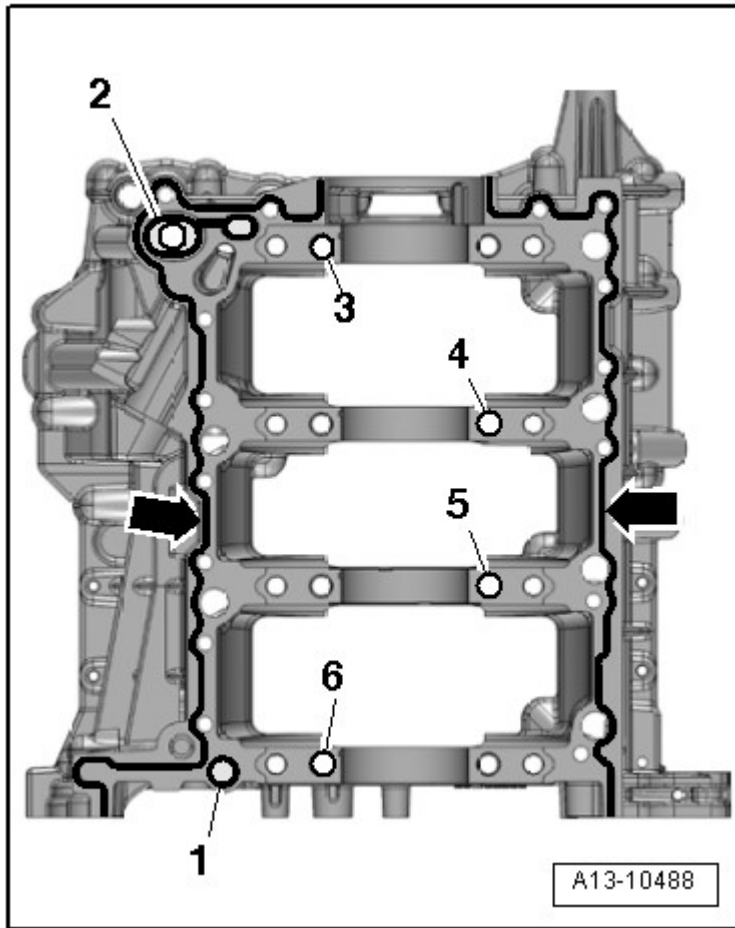

Fig. 7: Identifying Sealant Application
- Insert into guide frame, refer to **Fig. 7**
- Sealant application, refer to **Fig. 7**